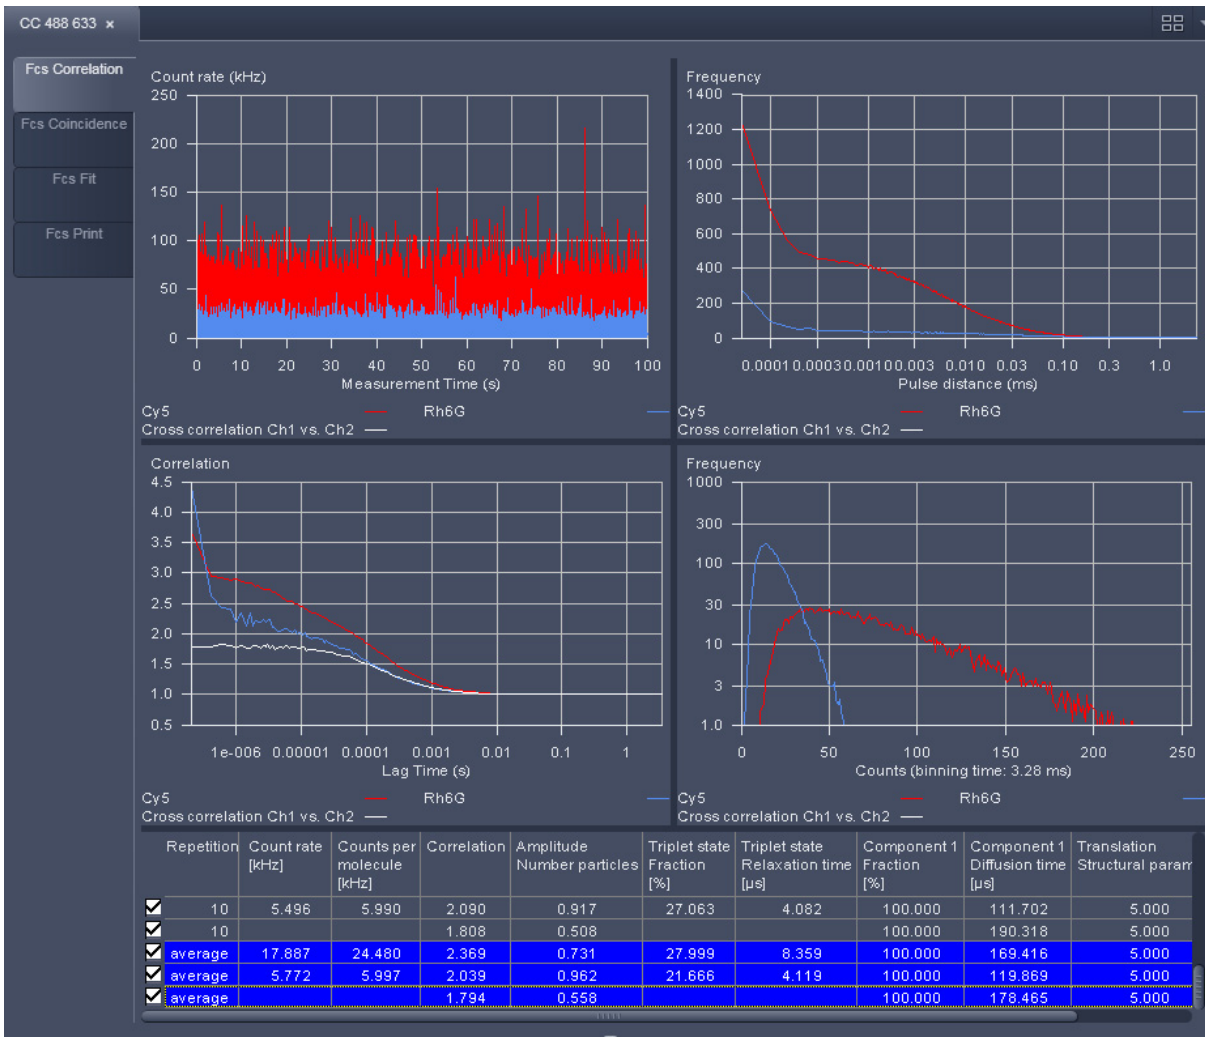

Fig. 35 FCS Correlation diagram
After measurement completion, the data is displayed in the FCS Correlation diagram within an Image Container (see Fig. 35).
- Fcs Correlation** Activate the **FCS Correlation** panel to display measured data (Fig. 35).